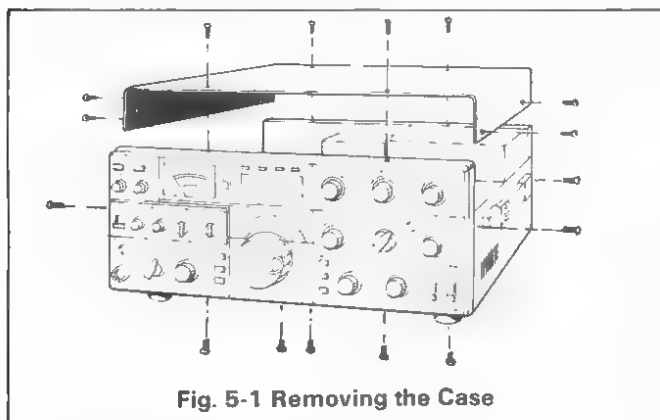

Fig. 5-1 Removing the Case
■ REMOVING THE CABINET (See Fig. 5-1)
Figure 5-1 illustrates cabinet removal. Remove the eight top-cover and eight bottom-cover screws and lift away the panels.